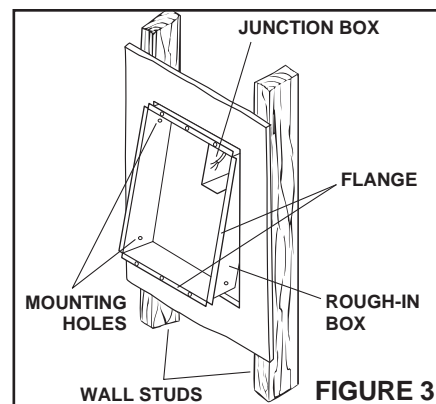

FIGURE 3
6. **Refer to Figure 3.** Insert TOP of housing into cutout first so that box connector clears the wall. Then, insert bottom of housing into cutout. **The flange must be flush with the wall.**